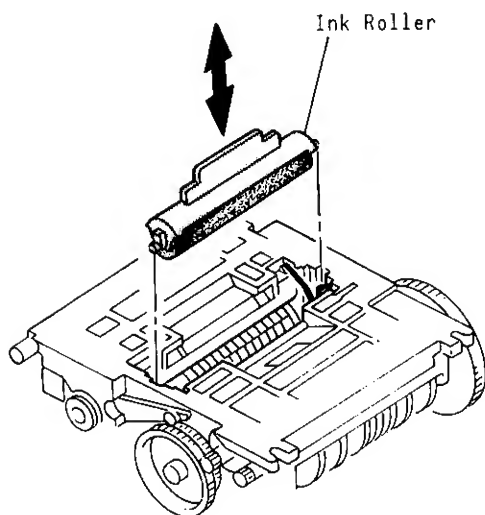

Fig. 7
4. Turn the plastic protrusion of the roller upward and pull it off. Now it is removed from the Ink Roll Holder. (Fig.7)